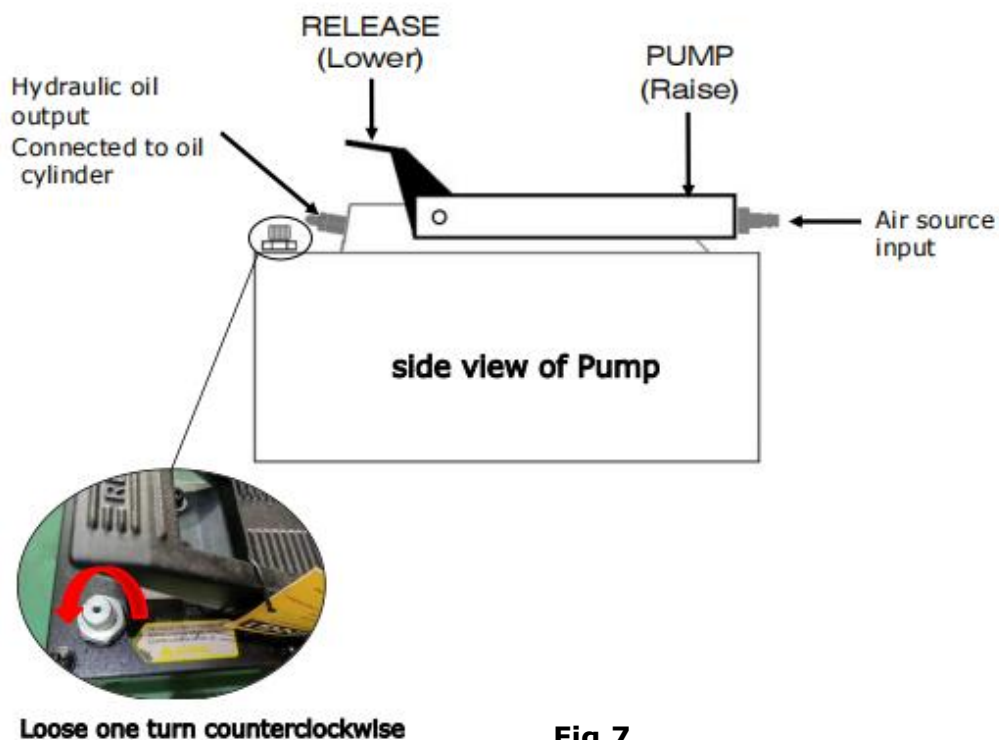

Fig.7
B. Press 'PUMP' showed in Fig 7 to fill air into the oil pump and the Rolling Jack is raised.
C. When the Rolling Jack raises to a suitable work height, press 'RELEASE' showed in Fig7 until the nearest Safety Lock is engaged. Make sure the safety lock is locked before processing work.
A. Press 'PUMP' showed in Fig 7 to raise the Jack for few seconds till the safety lock device is released.